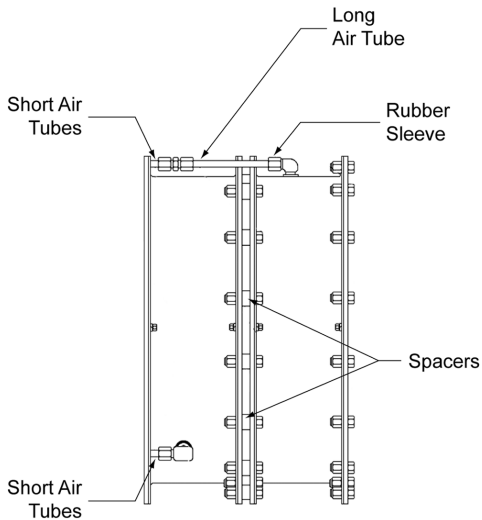

Figure 11
- 2.6.6 Align the air connections and reassemble the element halves, making sure the spacers are in place between the elements. See **Figure 11**.
- 2.6.7 Reassemble the air connection tubes. If an elbow has been removed, use a good quality pipe sealant on the threads. See **Figure 11**.